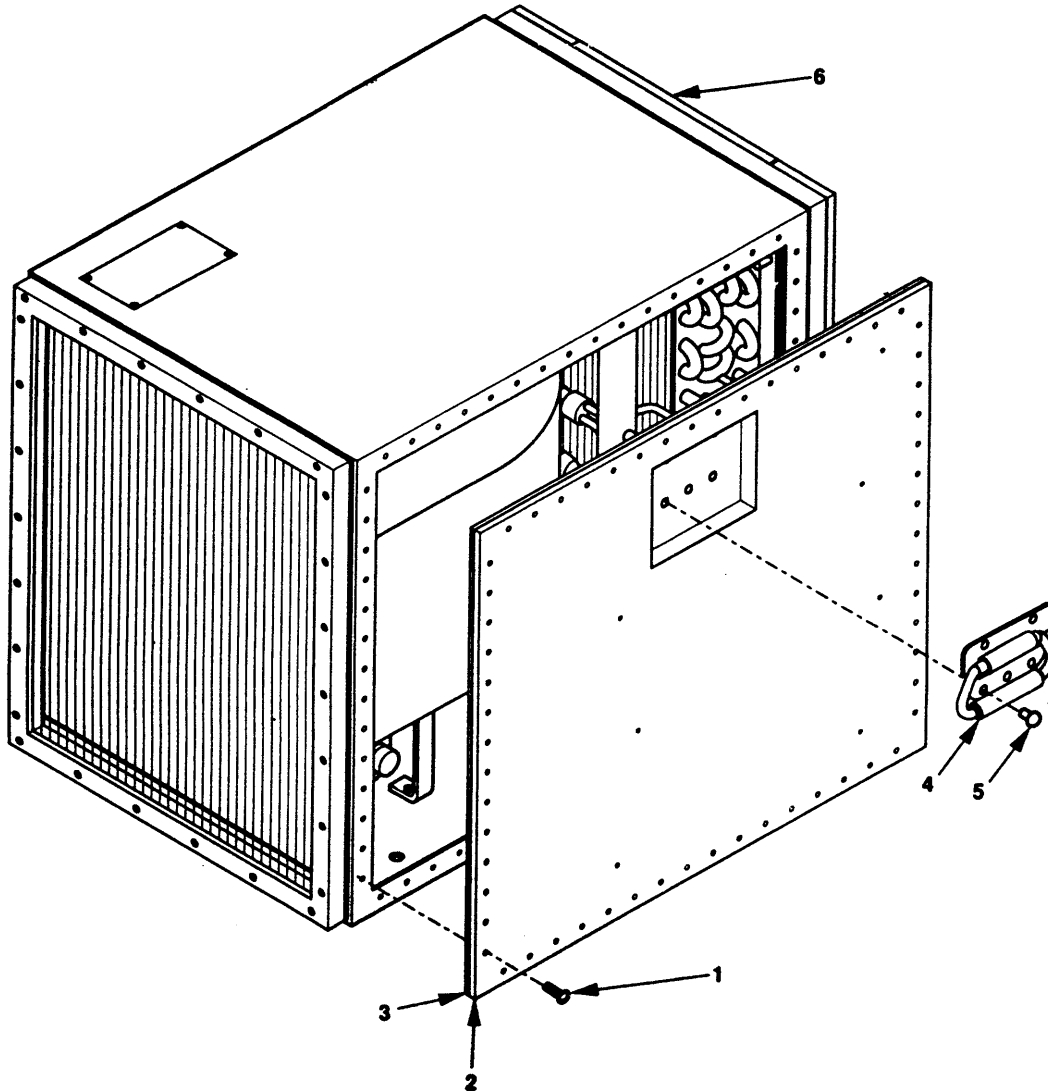

Figure 5-12. Evaporator Side Panel Maintenance.
- a. Remove.** Remove 60 screws (Figure 5-12, 1) and evaporator side panel (2).
- (1) Inspect evaporator side panel (2) for cracks, holes, bends, deteriorated or damaged EMI gasket (3), and damaged or missing bail handle (4).
- (2) Inspect mounting hardware for damage.
- (3) Replace all damaged or missing components.